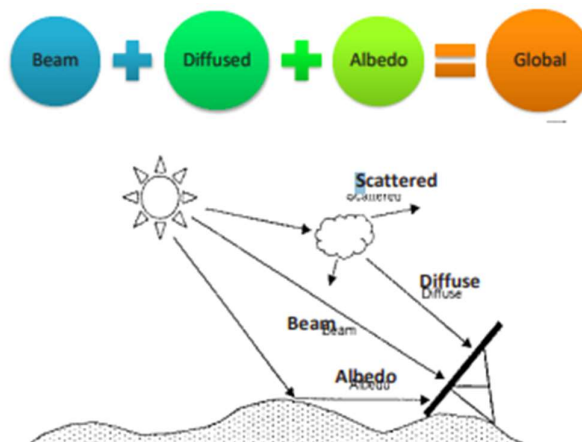

Fig. 2.12: Global horizontal radiance is the total of all radiation (beam, diffuse and albedo) falling on the solar PV panel
8. **Global horizontal irradiance (w/m^2):** This is the total of diffused radiation, direct radiation, and albedo radiation, as shown in Fig. 2.12.